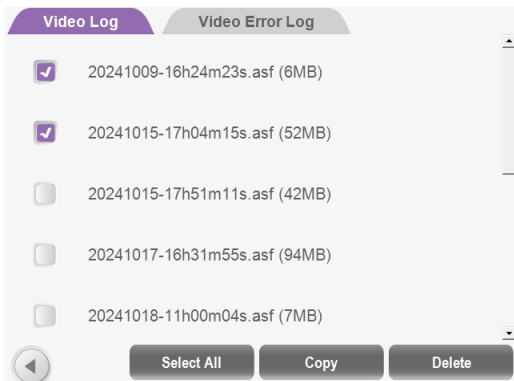

Figure 29. Saving Video Log and Video Error Log files screen
- Video Log and Video Error Log files are displayed on different tabs at the top of the screen. Select tab, then select videos to be retrieved by checking off checkbox beside the videos. Click “Copy” to copy the selected videos to your USB flash drive (Figure 29).